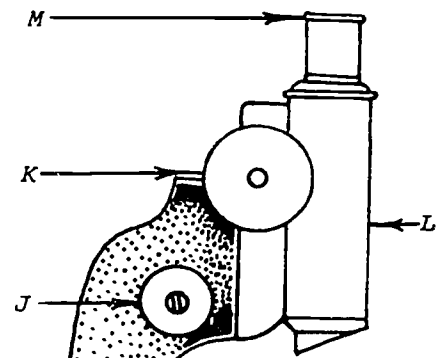

FIGURE 5
5. Study Figure 5. Find the labeled parts on your microscope.
b. K is the coarse adjustment. It is a larger knob. Turn the coarse adjustment slowly, taking care that the objective does not hit the stage. Note how the objective moves with respect to the stage. Record on your data sheet whether clockwise or counterclockwise turning (as you face the knob) moves the objective closer to the stage. Now move the knob marked J in Figure 5. It should be clear why J is called the fine adjustment and K is called the coarse adjustment.